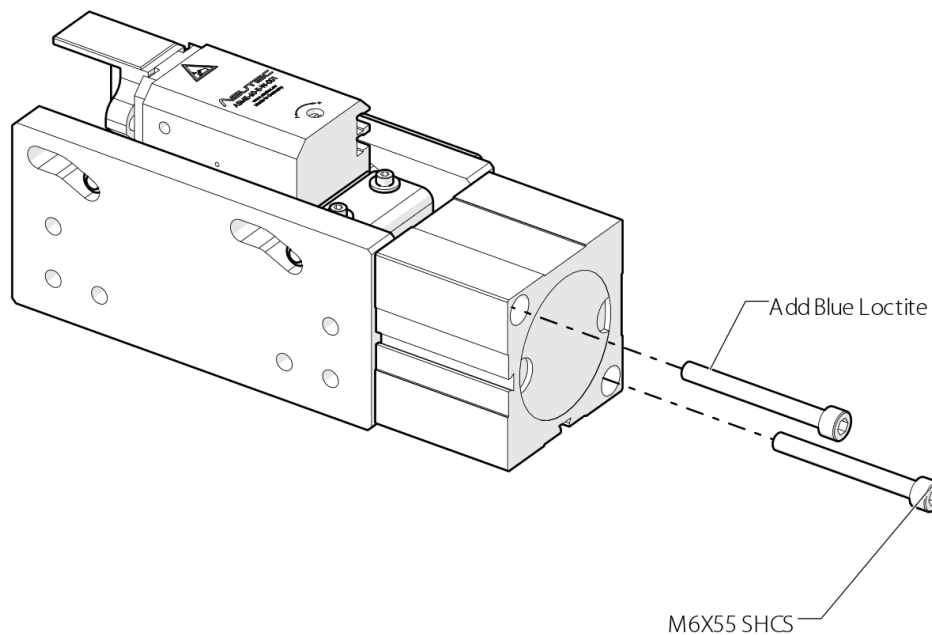

Figure 41: Remove M6X55 SHCS
Step 2: Remove M6X55 SHCS as shown in Figure 41.